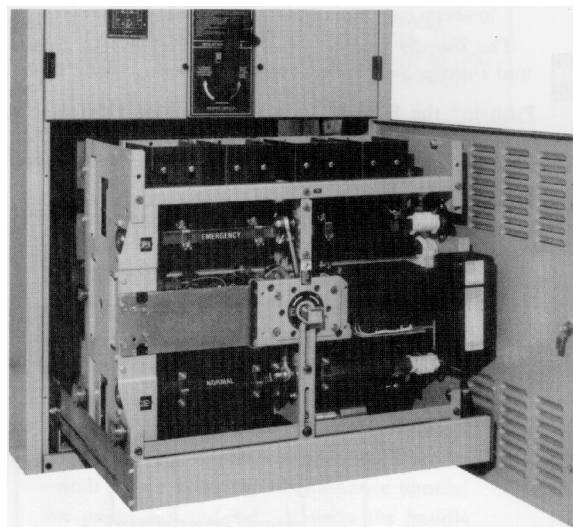

Figure 3-7a. 600-3000 A transfer switch isolated and pulled out for inspection.
4. Open the lower enclosure doors(s). Pull out the side rail carriage. On 4000 A extend two support legs. See Figures 3-7a and 3-7b. Then roll out the transfer switch. It can be safely inspected in this position. The transfer switch can also be removed for easier maintenance operations.